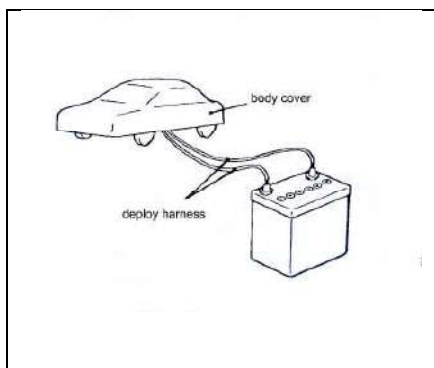

Fig 19-42
- ⑥ Separate the deployment harnesses as far from the vehicle as possible and connect to the terminals of the battery removed from the vehicle,Then deploy . (See fig 19-42)